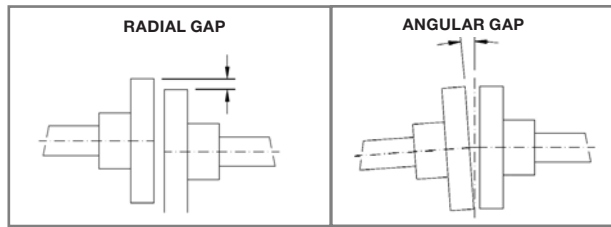

Figure 10-1: Parallel and Angular Misalignment Measurements
- The complete motor assembly is approximately positioned to align the coupling(s) with the driven equipment. Parallel and angular run-out is measured and the motor assembly position adjusted to achieve the values required by the coupling manufacturer or driven equipment. See Figure 10-1.